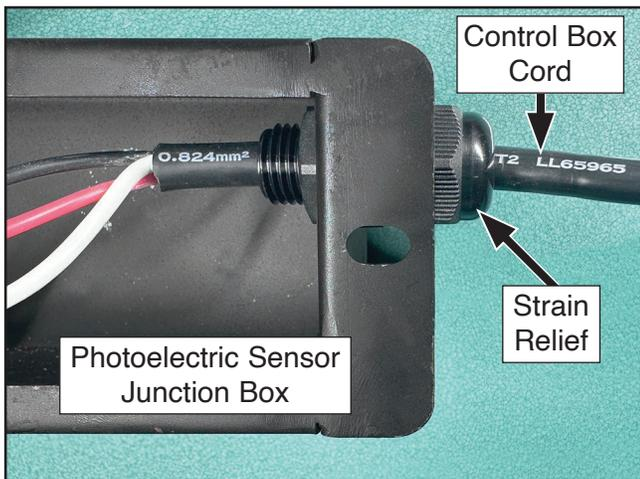

Figure 55. Control box cord secured to photoelectric sensor junction box with strain relief.
49. Route control box cord through hole in photoelectric sensor junction box, then secure with (1) M16-1.5 strain relief (see **Figure 55**).